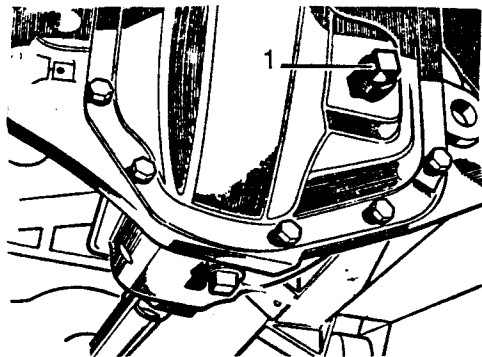

Fig J2.68
- (1) Refer to Fig J2.68. Remove the filler level plug (1).
- (2) Check that the oil is up to the bottom of the filler plug hole.
- (3) If necessary pour oil into the filler plug hole to bring the oil up to this level.
- (4) Allow excess oil to drain from the filler hole.
- (5) Replace and tighten the filler hole plug.
- (6) Wipe off excess oil from around the plug.